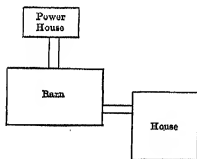

Fig. 80. Layout of farm-lighting system.
**Prob. 47-3.** Fig. 80 shows the layout of a 32-volt farm-lighting equipment. The feeders from the power-house to the barn have a total resistance of 0.05 ohm and from the barn to the house 0.02 ohm. When the gasoline engine in the power-house is running, the voltage sometimes rises to 35 volts. When the load is carried